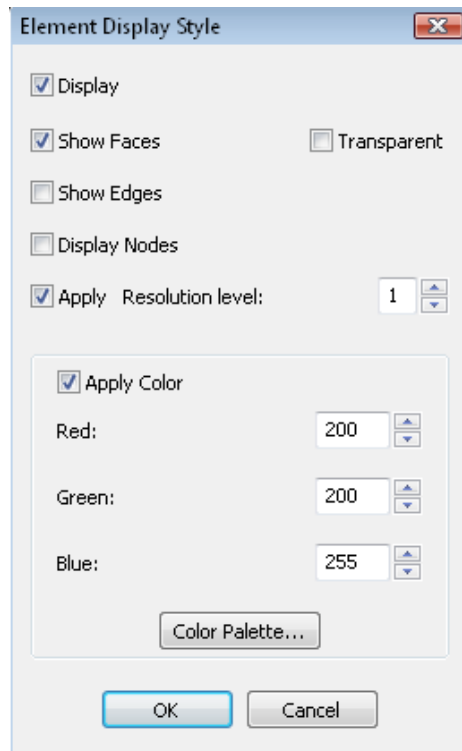

Figure 10: Element Display Style Window.
- Again right-click on the mesh while holding down the *shift-key* and select: **Selected Elements > Display Style** to view a pop-up window shown in Figure 10.